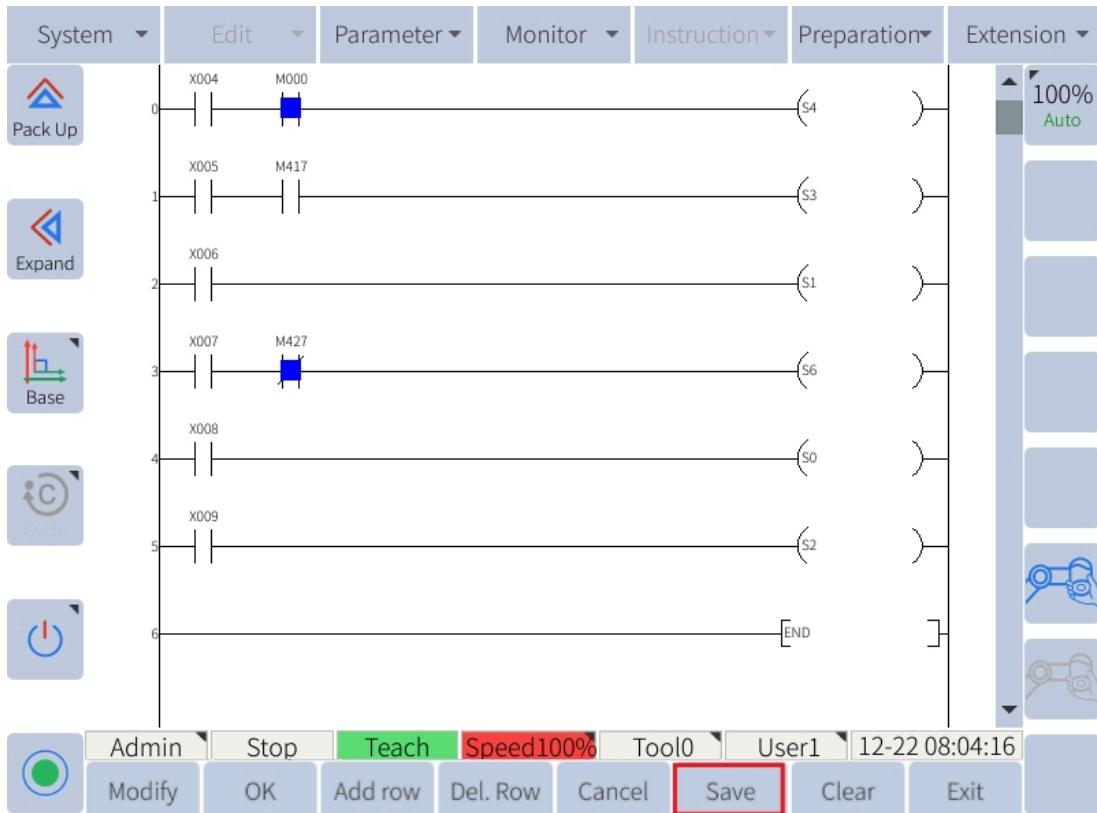

Figure 10-4 : save the program
5. After finishing editing, click “Save” at the bottom right, as shown in **Figure 10-4** :